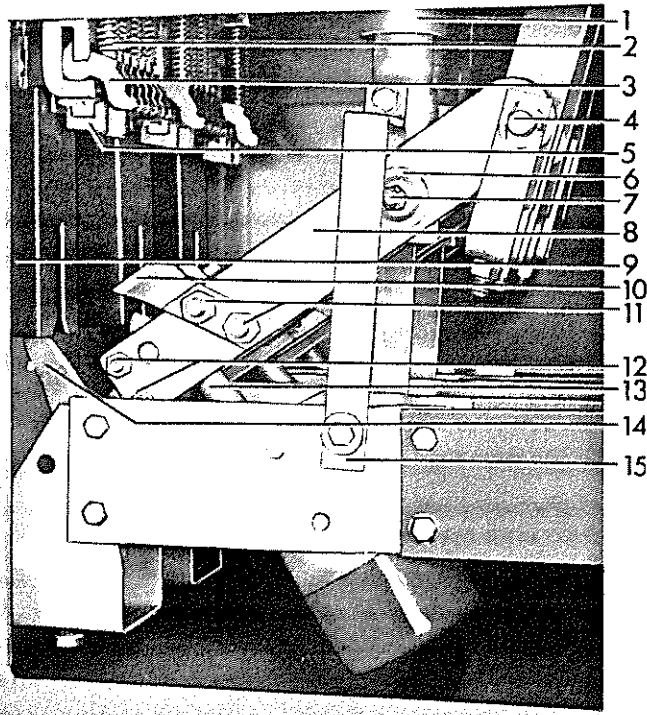

Figure 23. (8039588) Contact Assembly
1. Disconnect the contact braids (7) from the contact fingers by removing two bolts and locking plates (8).
3. To disassemble braids from stud plate remove one bolt (5).
4. To disassemble stud plate from contact support, remove two bolts (6).
5. Reassemble in the reverse order, make sure locking plates are properly re-assembled with bolts (8).
### B. Movable Arcing Contact (14) Figure 23.
1. Remove the assembly bolts (12) making note of quantity and location of shims and spacers used between contacts and contact arms.
3. Close the breaker slowly to check that the movable arcing contact is approximately centered on the stationary arcing contact and that it does not rub on either side of the throat barrier (9).
D. Movable Primary Contacts (10) Figure 23.
E. Contact Arm Assembly (8, 10, 12, 14, Figure 23).
1. Remove connection bar (15).
2. Disassemble hinge pin (7), cup bearing (6), and operating rod pin (4) noting quantity and location of any washers and spacers used in assemblies.
3. The contact arm assembly including the piston assembly (13) can now be removed.
4. When reassembling, first insert piston tube assembly (13) into the booster cylinder and reassemble the cup bearing, making sure the silvered contact washers between the bushing and contact arms (both sides) are in place.
5. Reassemble operating rod pin (4) and connection bar (15).
3. Remove the connection bar (15) Figure 23, cup bearing (6) and hinge pin (7).
5. When reassembling, first mount the bushing and assemble the cup bearing (6), contact arm (8), and replace pin (7) being sure the silvered contact washers between the bushing and contact arms are in place. The contact surfaces at the hinge point of the contact blade and bushing should have a thin coating of D50H47 grease.